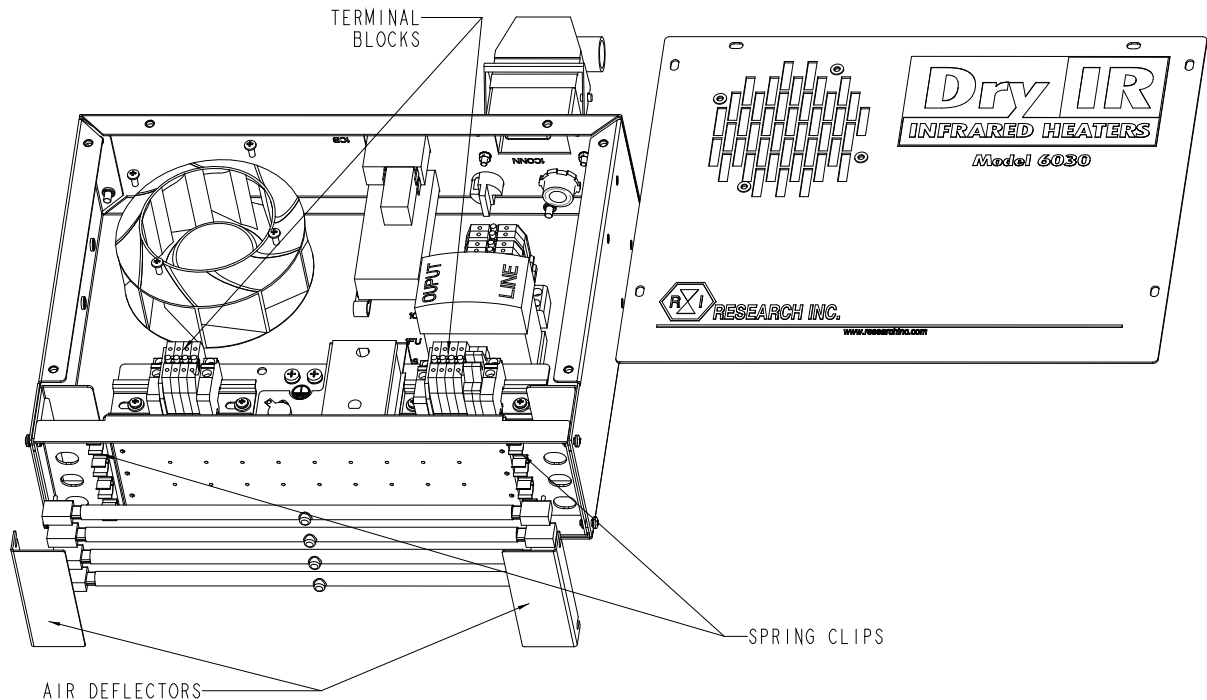

Figure 3-1. Model 6040 Spring Clip and Terminal Block locations.
3. Insert the lamp lead wires through the reflector and snap the lamp into the spring clips provided (Figure 3-1). If the lamp clips are excessively tight, gently spread the clip wider. Make sure that the lamp is held securely in the clip.